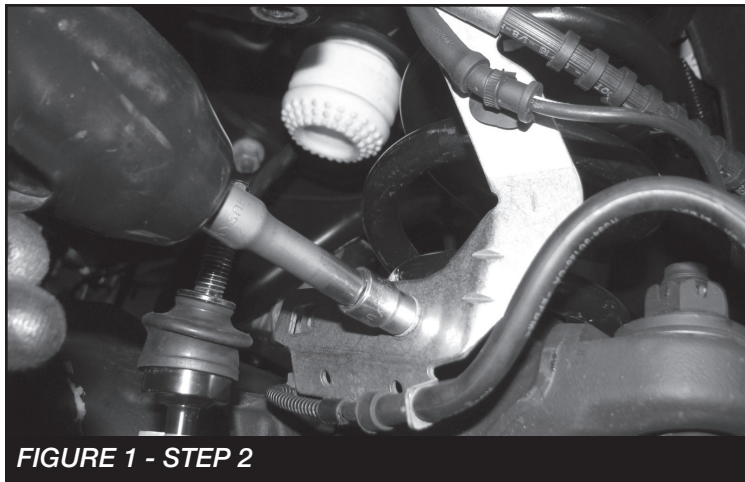

FIGURE 1 - STEP 2
2. Disconnect the sway bar from the end links and the factory brake line bracket from the lower coil spring perch. **SEE FIGURE 1.** Repeat on Passenger side.